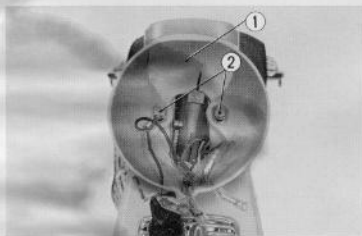

Fig. 4.31 Removing headlight case
- Remove the headlight case ① by removing the two 6×25 hex bolts ② within the headlight case and the 6×40 cross screw. (Fig. 4.31)